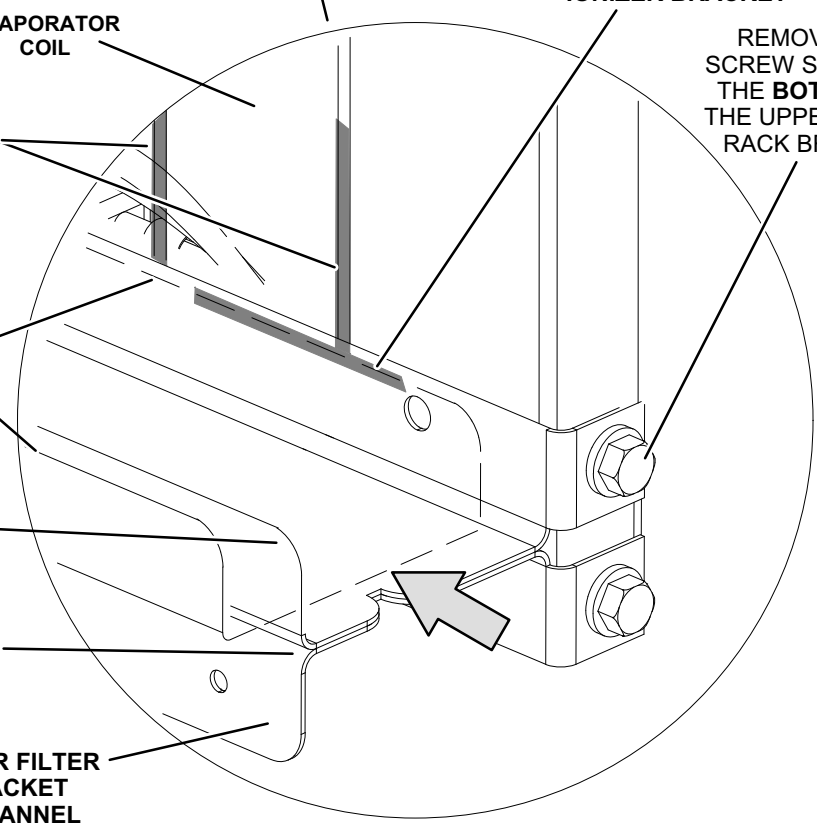

FIGURE 45
The optional, brush-type ionizer produces positive and negative ions to clean air and reduce airborne contaminants. The ionizer was designed to be low maintenance. The device should be checked semi-annually to confirm the brushes are clean for maximum output. The ionizer is located behind the filters. See figure 45.
- 1- Remove filters, screws securing the top and bottom of the upper filter bracket, and the wire ties the screws hold in place. See figure 45.